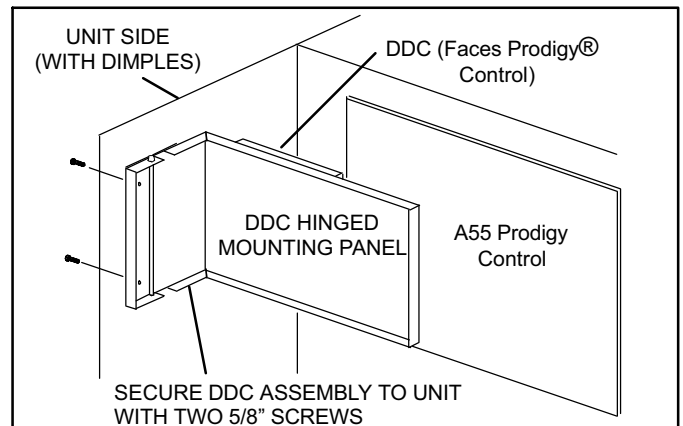

Figure 1. 036, 060, 120 Units - Installing DDC Hinged Mounting Panel
4. **036, 060, 120 Units:**—Position DDC hinged mounting panel as shown in figure 1. Make sure the DDC faces the A55 Prodigy control board. Align holes on hinged bracket with dimples on the unit side. Secure DDC panel to unit with two 5/8" screws.